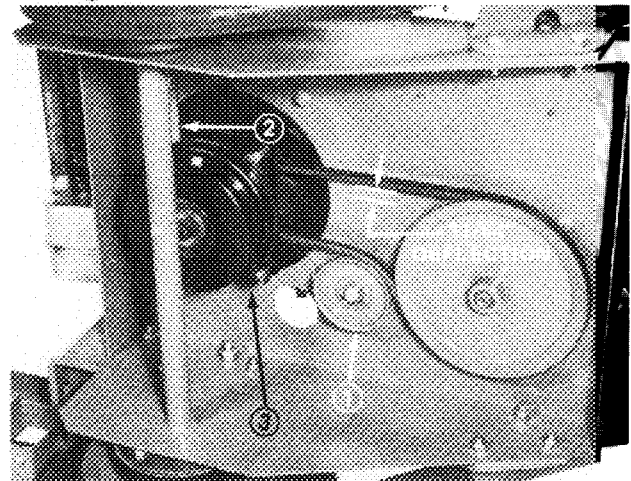

Figure 21
1. Loosen capscrew and flange locknut securing idler pulley to frame (Fig. 21). Slide pulley outward relieving belt tension.
2. Remove left front engine mounting bolt securing clutch retainer to frame (Fig. 21). Unhook retainer from clutch and remove retainer.
3. Disconnect in-line wire connector and remove belt from drive pulley and clutch (Fig. 21).
6. Position and secure idler pulley to frame so belt deflection is no more than 1 1/64" when 5–1/2 lb of force is applied to mid span of long leg of belt (Fig. 21).
1. To adjust clutch, tighten or loosen locknuts on flange studs (Fig. 21).